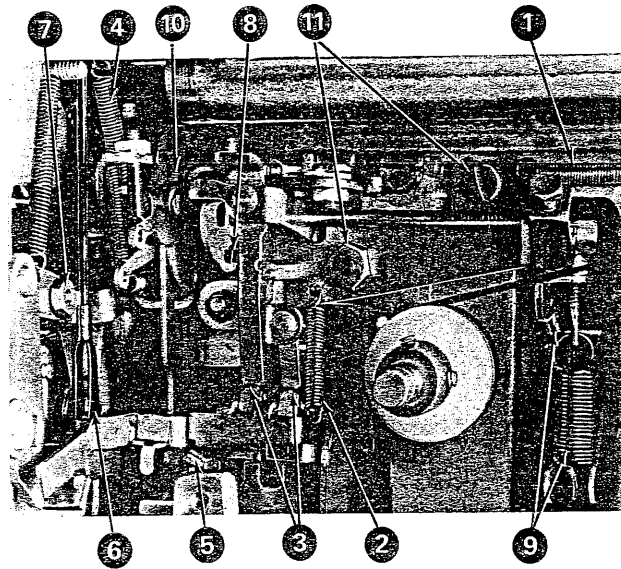

Figure 4-48. Operational-Latch-Bracket Removal (Steps 5-18)
5. Disconnect the backspace-rack spring (No. 1, Figure 4-48).
6. Disconnect the cam-follower spring (No. 2, Figure 4-48).
7. Disconnect the space and tab-latch springs (No. 3, Figure 4-48).
9. Disconnect the detent spring (No. 4, Figure 4-48).
10. Disconnect the carrier-return-latch spring (No. 5, Figure 4-48).
11. Remove the index-selection link (No. 6, Figure 4-48).
12. Remove the carrier-return eccentric by removing the eccentric nut (No. 7, Figure 4-48).
13. Remove the escapement link (No. 8, Figure 4-48).
14. Disconnect the carrier-return actuating spring and carrier-return actuating-arm spring (No. 9, Figure 4-48).
15. Remove the escapement-torque-bar restoring spring (No. 10, Figure 4-48).
16. Remove the two mounting screws (the left one is not visible) and one nut (No. 11, Figure 4-48).